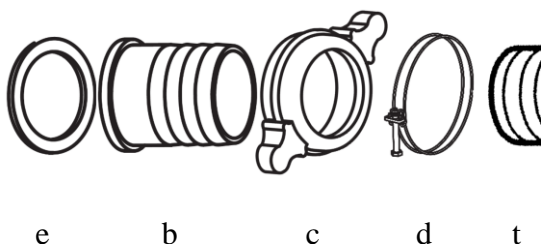

Fig. 5
- Fig. 5 illustrates the order to place the parts to successfully attach the suction hose to the inlet suction inlet (9) of water pump.
- Similar to suction hose connection, connect the discharge hose with using another connector set (gasket, hose adaptor, adaptor collar and hose clamp). Refer to Fig. 5 for details.